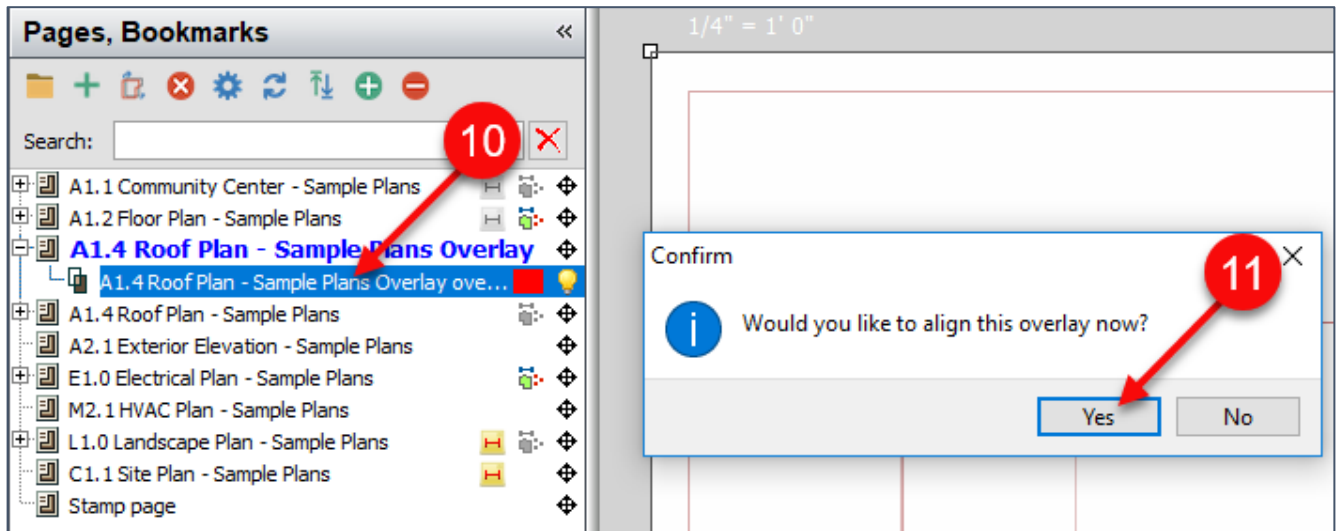

Figure 29-B
12. You are now prompted to click the first alignment **Point** on the overlay (Fig. 29-C).